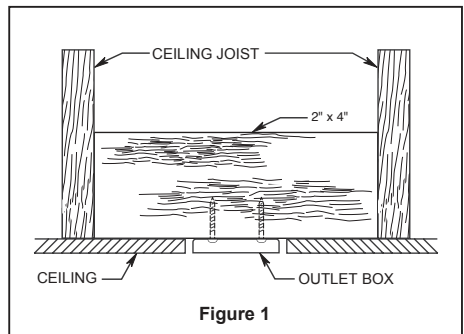
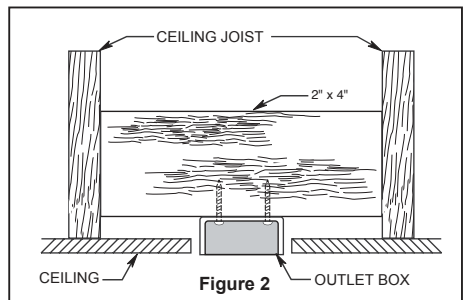

Figure 1
Figure 2
Your new ceiling fan will require a grounded electrical supply line of 120 volts AC, 60 HZ, 15 Amp Circuit. Electrical code requires use of a fan-rated outlet box to support the extra weight and motion associated with a ceiling fan. A fan-rated box will be labeled as such and typically supports up to a 70lb ceiling fan. Fan-Rated Outlet Boxes vary in ratings and design. Ensure the ratings of your ceiling fan outlet box meet the requirements for the ceiling fan being installed. Figure 1, Figure 2 and Figure 3 depicts different structural configurations that may be used for mounting the outlet box.
### Low profile box (Figure 1)
### Deep box (Figure 2)
To avoid possible electrical shock, be sure electricity is turned off at the main fuse box before hanging. (Figure 1)
The fan must be hung with at least 7' of clearance from floor to blades. (Figure 2)
1. To set the code on receiver unit, slide dip switches to the same positions as set on the remote. (Figure 1)
To avoid possible electrical shock, be sure electricity is turned off at the main fuse box before wiring. (Figure 2)
1. Align the wide tab of motor assembly to the wide notch of ceiling bracket. Carefully secure the motor housing onto the mounting slots on ceiling bracket by twisting in a clockwise direction. Be sure the receiver and all wiring are tucked into the motor housing and is not pinched. Once the motor assembly is flush with your ceiling, replace the previously removed screws and securely tighten all four screws. (Figure 1)
1. Slide blades through slots in motor housing and attach to the motor hub using the 3/16"-24 washer head screws and fiber washers. Make sure the screws securing the blades to the motor hub are tight and are properly seated. (Figure 1)
1. Remove one of the three screws in the support bracket at the bottom of the motor assembly. Retain the screw for later and slightly loosen the remaining two screws. (Figure 1)
2. Assemble the light kit to the support bracket using the two key slots in the light kit. Replace the previously removed screw and securely tighten all three screws. (Figure 2)
1. **IMPORTANT:** Using a full range dimmer switch (not included) to control fan speed will damage the fan. To reduce the risk of fire or electrical shock, do not use a full range dimmer switch to control the fan speed. (Figure 1)
2. Restore electrical power to the outlet box by turning the electricity on at the main fuse box. (Figure 2)